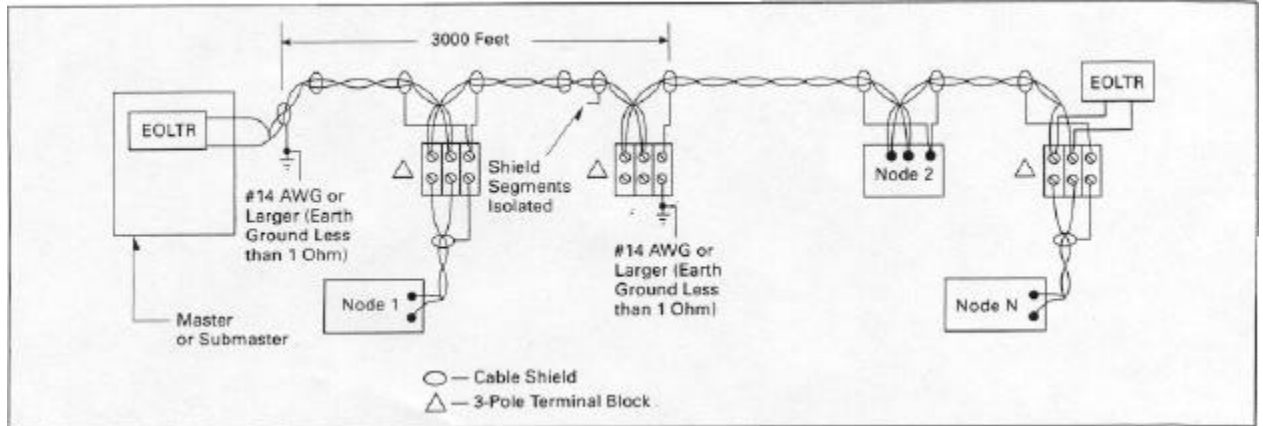

Figure 1
**Note:** The building electrical ground may not be effective since it may travel through many connections and considerable distances before reaching earth ground. In such cases a new ground path will be required since the effectiveness of this shield earth ground connection will affect the integrity of data transferred over the cable (see Figs. 1 and 2).